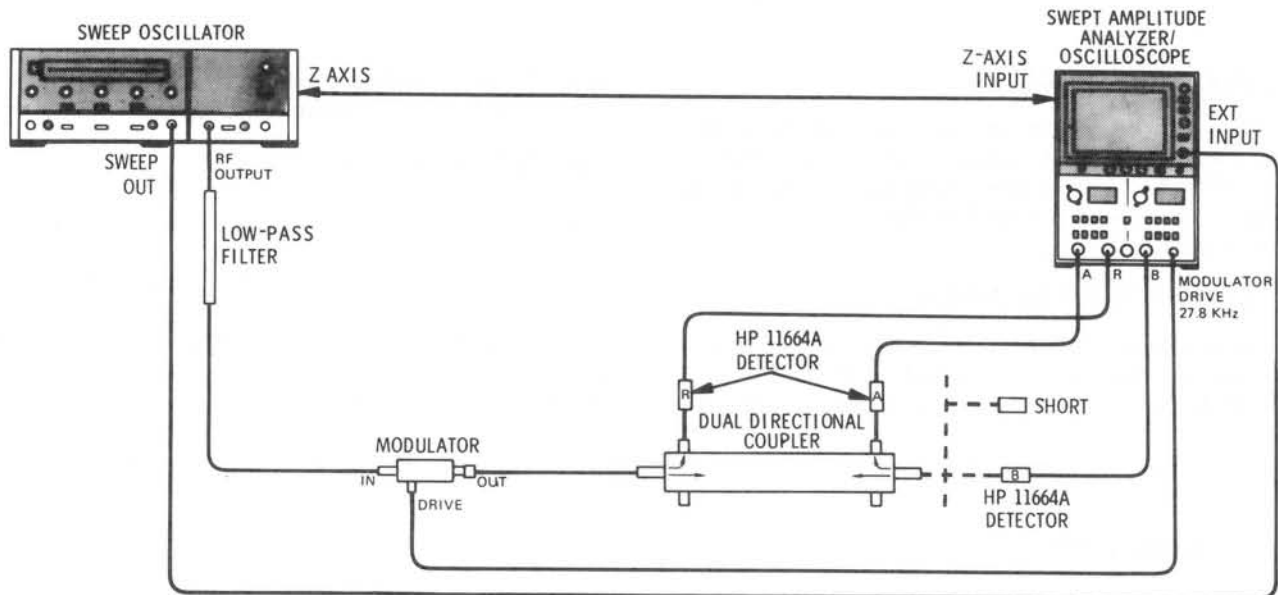

Figure 4-1. Return Loss Test Setup
1. Connect the equipment as shown in Figure 4-1 with the short connected.